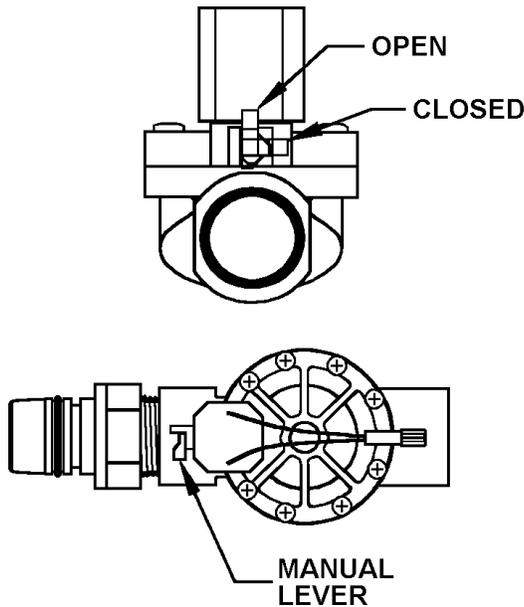

Figure 4.
- The UV tank can now be filled with water by restoring power to the well pump or opening main supply valve. Open the INLET solenoid valve using the emergency, manual opening lever located on the valve (See Figure 4). Allow the tank to fill until water discharges from the OUTLET nipple and then close the manual lever. This will purge the air around the quartz sleeve. REMEMBER: the water inside the unit has a high chlorine content, therefore handle it carefully. DO NOT allow it to splash onto skin, clothing, carpeting, etc.
In the event of a power outage and water is required, the solenoid valve can be manually opened by turning the manual lever up to the open position (Figure 4). THIS WATER WILL BE UNTREATED. IN THE EVENT OF PERFORMING THIS PROCEDURE THE PLUMBING SYSTEM MUST BE RE-SANITIZED, AS DESCRIBED IN STEP 6, UPON RESTORATION OF POWER AND CLOSING THE MANUAL LEVER BEFORE WATER IS USED.